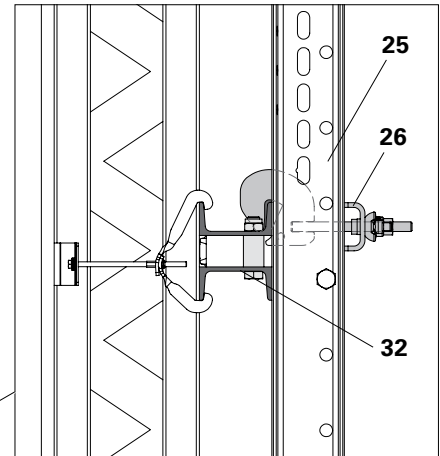
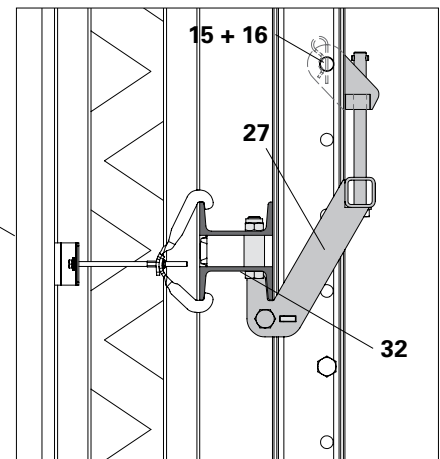

Fig. C1.07a
Fig. C1.07b
2. Position the Strongback SRU U120 (25) on the top waling (32) with Waler Fixation SRU (26). (Fig. C1.07a)
3. Pull the Adjusting Unit SRU external (27) over the bottom end of the Strongback.
4. Mount the top part of the Adjusting Unit on the Strongback using fitting pins  $\varnothing$  21 (15) and cotter pins 4/1 (16).
5. Spindle in the bottom part of the Adjusting Bolt SW 30 until it rests against the waling. (Fig. C1.07b)